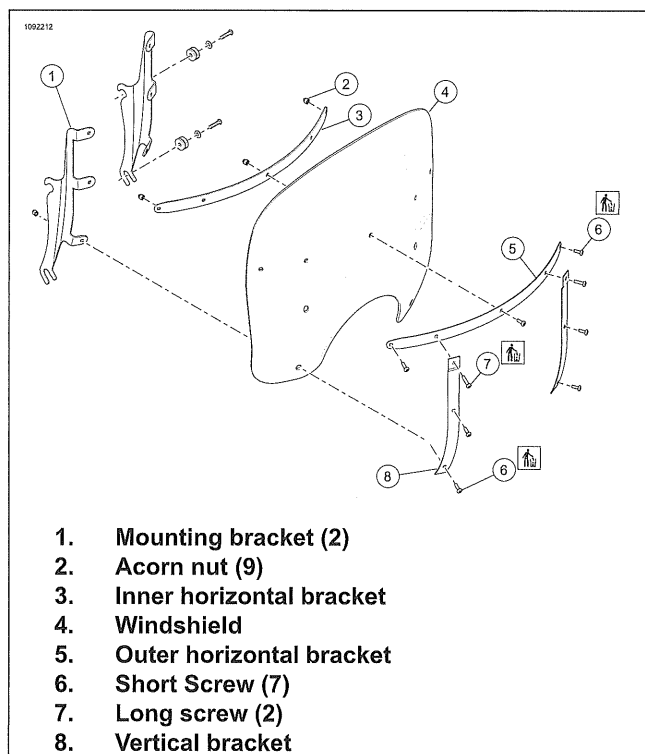

Figure 3-112. Windshield Assembly
1. See Figure 3-112. Disassemble windshield brackets.
- b. Remove acorn nuts (2) and discard screws (6, 7) from each vertical bracket (8).
- c. Remove and discard remaining screws from horizontal bracket (5).
1. See Figure 3-112. Install horizontal bracket.
- a. Position inner horizontal bracket (3) and outer horizontal bracket (5) on windshield (4).
- b. Loosely install three **new** short screws (6) and acorn nuts (2).
- a. Position mounting brackets (1) and vertical brackets (8) on windshield.
- b. Loosely install **new** long screws (7) and **new** short screws (6) through vertical brackets, windshield and mounting brackets.